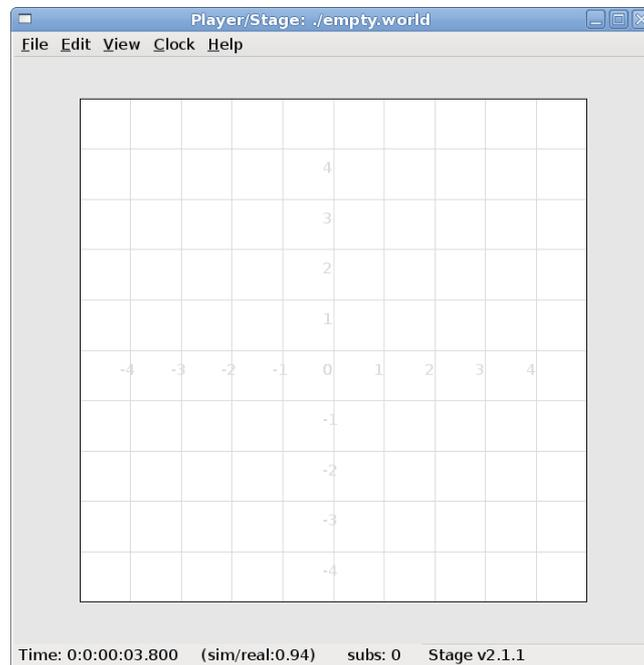

Figure 5: An empty map with gui\_grid enabled. With gui\_grid disabled this would just be an empty white square.
- `gui_grid`: this will superimpose a grid over the model. Figure 5 shows a map with a grid.